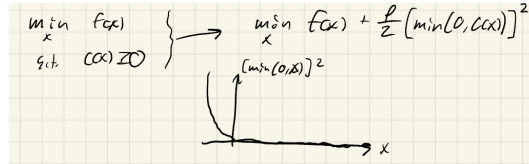

Figure 15: Penalty Method Objective
- Replace the inequality constraint with an objective term that penalizes violations fig. 15.